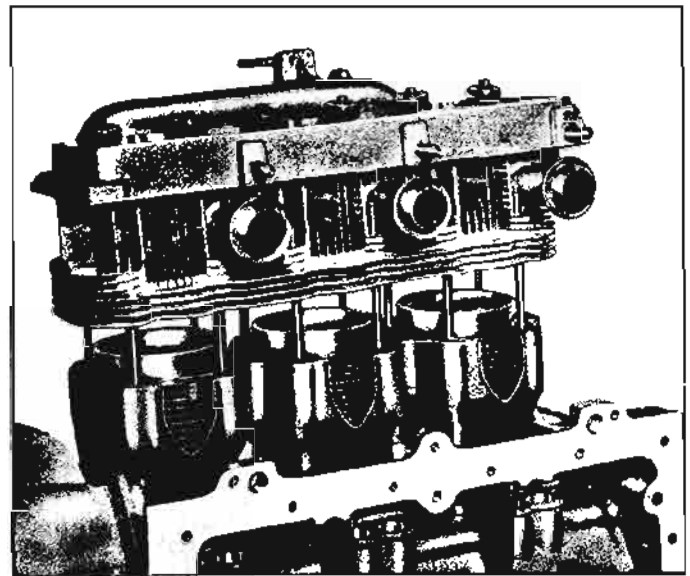

Fig. 6A-102—Installation of Cylinder Head
31. Lightly oil hydraulic lifters and install in their proper bores. Install push rod oil drain tubes through cylinder head. Place "O" rings, one on each end of drain tube as shown in Figure 6A-105. Oil "O" rings with motor oil and push into place, at lifter bore in crankcase and cylinder head.